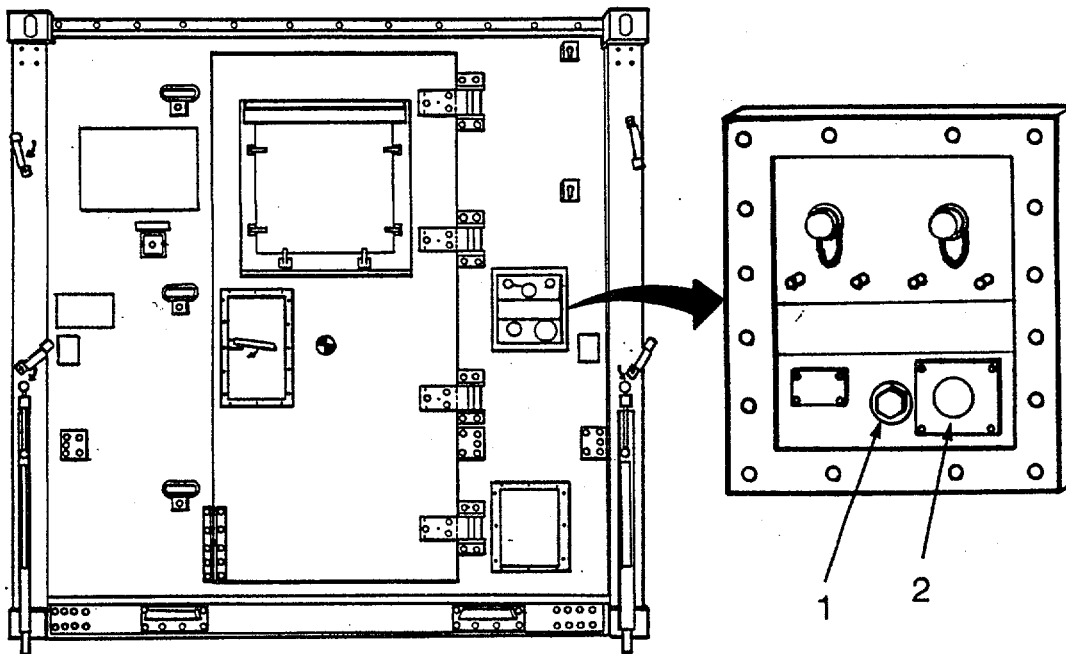

Figure 2-14. Power Cable Connections to Finishing Section Shelter
- (3) Install grounding rod. Connect grounding rod wire to lug (1) on power input panel of the shelter. (Refer to Figure 2-14 for location of grounding rod wire lug.)
- (6) Connect power cable to Finishing Section Receptacle (2) on the power input panel of the shelter. (Refer to Figure 2-14 for location of receptacle.)
- (7) Request generator operator to energize power source.